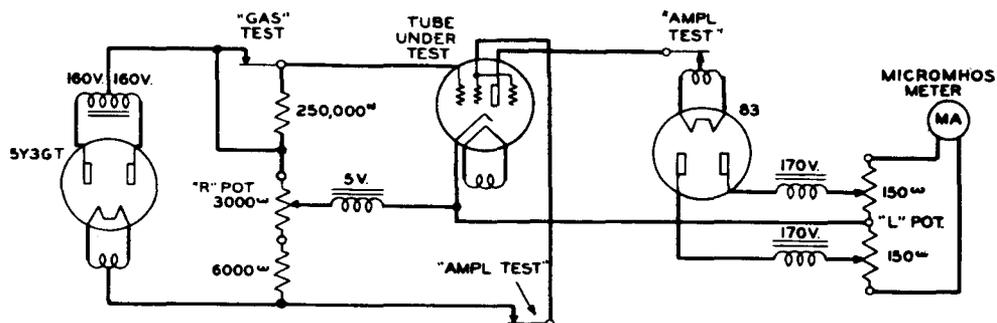

Fig. 2 - Basic Transconductance Test Circuit
2.17 When measuring indicated transconductance or testing filament (or cathode) activity, the set is arranged to provide the circuit shown in Fig. 2. The 5Y3GT-type (or 5W4) full-wave rectifier tube supplies unfiltered d-c potentials to the control and screen grids (if any) of the tube under test. The plate potential is derived from a separate rectifier employing an 83-type tube with balanced transformer secondaries supplying a-c potentials of 170 volts to each plate of the rectifier tube. The #83 full-wave rectifier tube is of the mercury vapor type and is used to ensure a minimum internal voltage drop, with better regulation, regardless of load current. The MICROMHOS meter is connected across the potentiometer resistances in the rectifier circuit as shown. Since the currents in the two resistances are equal, the arrangement is balanced and no potential is impressed on the meter if no a-c signal is impressed on the control grid.